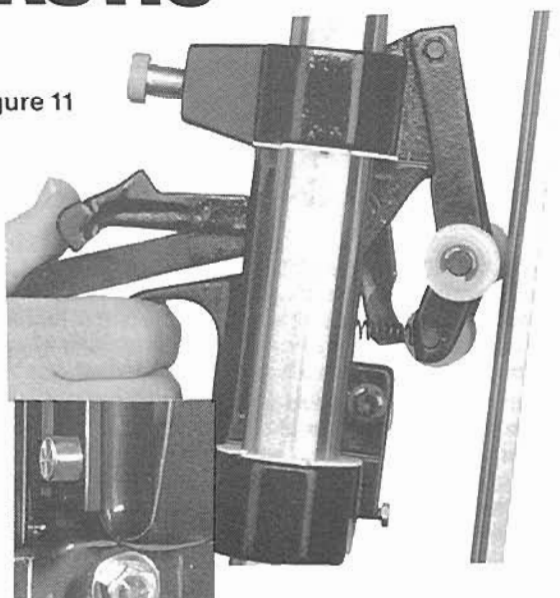

Figure 10
4. Grasp the **Cutting Head** with your right hand. Depress the short **Trigger** with your thumb and hold it down while raising the **Head**. Release the **Trigger** so the cutting tool rests on the surface of the plastic as close as possible to the upper edge of the plastic. See Figure 10